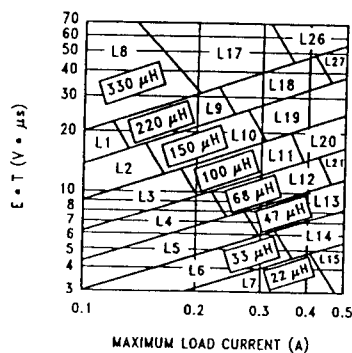

FIGURE 8. LM2594-ADJ
B. Use the $E \cdot T$ value from the previous formula and match it with the $E \cdot T$ number on the vertical axis of the Inductor Value Selection Guide shown in Figure 8.
D. From the inductor value selection guide shown in Figure 8, the inductance region intersected by the 35 ($V \cdot \mu s$) horizontal line and the 0.5A vertical line is 150 μH, and the inductor code is L19.